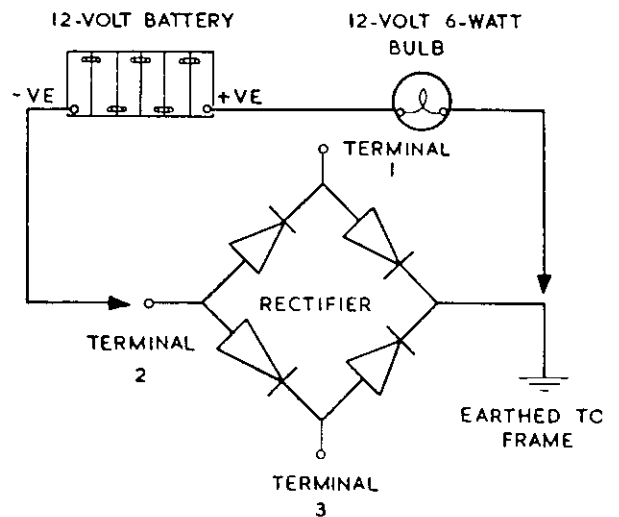

Fig. 6. Rectifier Test.
14. Disconnect all three cable connections from the rectifier. Using the 12-volt battery and 12-volt 6-watt bulb, connect the negative side of the battery to terminal 2 as shown in Fig. 6. (The 6-volt motorcycle battery is not suitable for this test). With the circuit arranged as shown, the bulb should not light. If the bulb does light this indicates short-circuited rectifier plates and a replacement rectifier must be fitted.